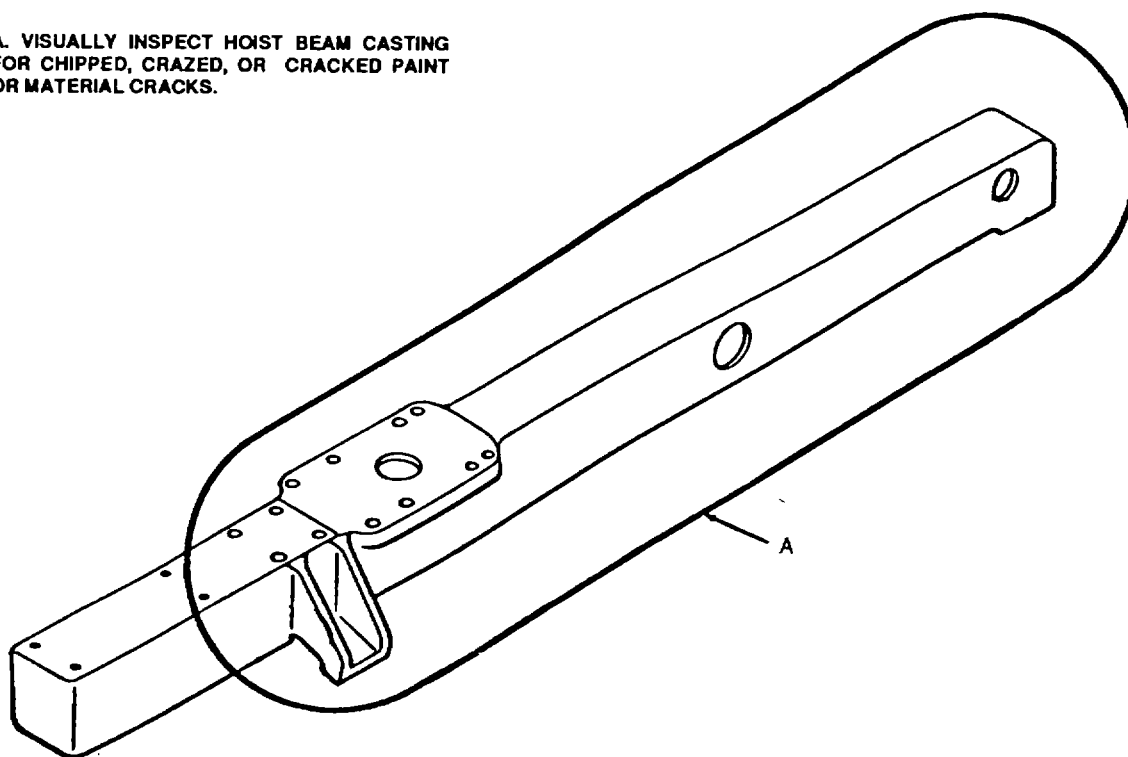

Figure 6-5. Critical Areas for Inspection of Hoist Beam.
(2) Superstructure. Clean and inspect the critical areas as defined (figures 6-5 through 6-10) for evidence of chipped, crazed, or cracked paint. If any of these conditions are discovered, remove the paint by hand with a wire brush (do not use power tools) and determine if the weld or the parent material is cracked. If a crack is found, the loader is NOT mission capable.